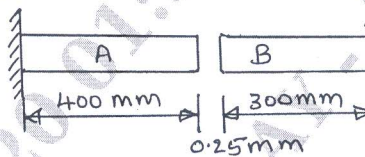

Fig.Q2(c)
- c. At room temperature the gap between bar A and B shown in Fig.Q2(c) is 0.25mm. What are the stresses induced in the bars, if temperature rise is 35°C . Given $A_A = 1000 \text{ mm}^2$, $A_B = 800 \text{ mm}^2$, $E_A = 2 \times 10^5 \text{ N/mm}^2$, $E_B = 1 \times 10^5 \text{ N/mm}^2$, $\alpha_A = 12 \times 10^{-4}/^\circ\text{C}$, $\alpha_B = 23 \times 10^{-6}/^\circ\text{C}$, $L_A = 400\text{mm}$ and $L_B = 300\text{mm}$.